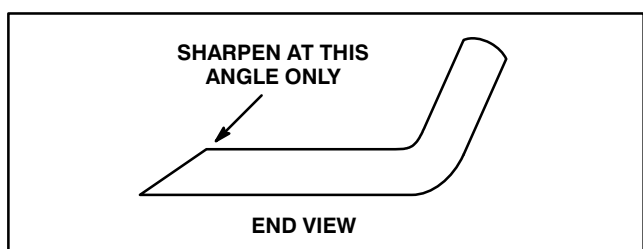

Figure 27
3. Inspect cutting edges of all blades. Sharpen the cutting edges if they are dull or nicked. Sharpen only the top of the cutting edge and maintain the original cutting angle for best performance (Fig. 27). The blade will remain balanced if same amount of metal is removed from both cutting edges.